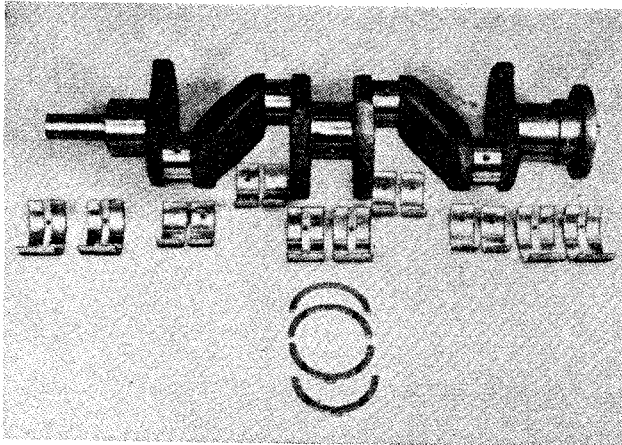

Fig. 8 Crankshaft, Bearings and Thrust Washers.
- (f) **The Crankshaft** (Fig. 8) is forged from molybdenum manganese steel, being provided with balance weights which are an integral part of the crankshaft throws, adjacent to the three main bearings.
4. CRANKSHAFT AND MAIN BEARINGS (Fig. 8)